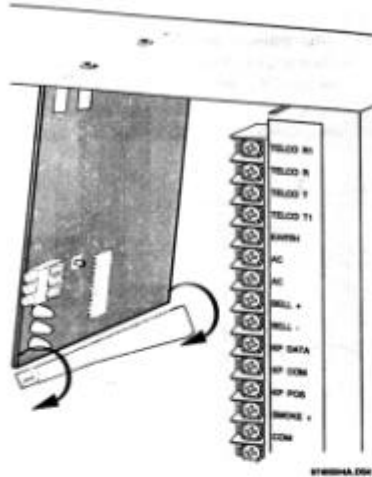

Figure 3. Installing the Module into the Cabinet
- 3) Install the module into the cabinet by turning the standoff sideways, then slide the module up onto the ground plane screw posts (see Figure 3).